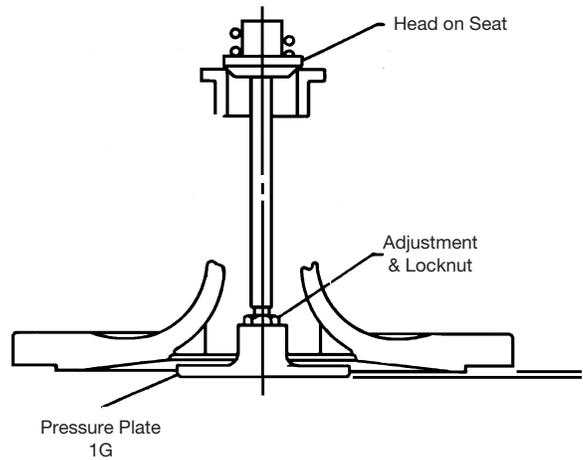

Figure 5
1. Unscrew copper tubing connection (G).
8. Make certain pressure plate (1G) is set properly. (Refer to Fig. 5)